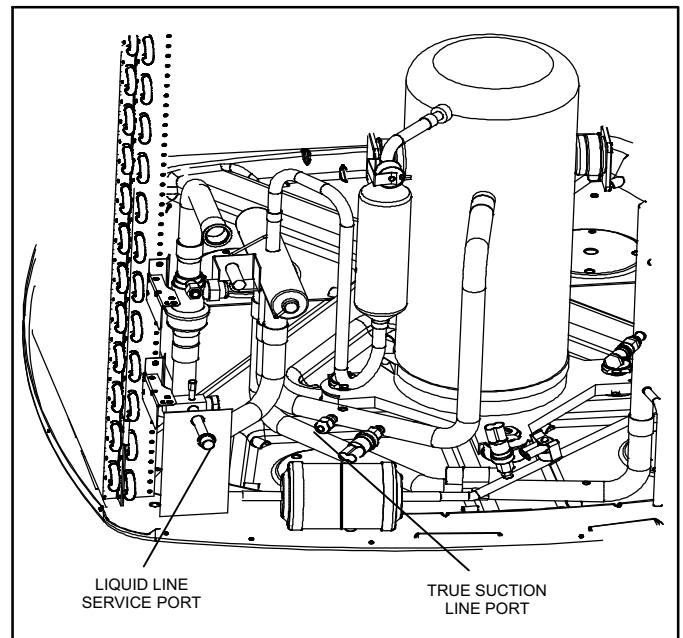

FIGURE 4. Typical Suction Line Port Location
1. Connect manifold gauge set to applicable port as illustrated in figure 4:
- low pressure gauge to *true suction line* (see figure 4 for location) .